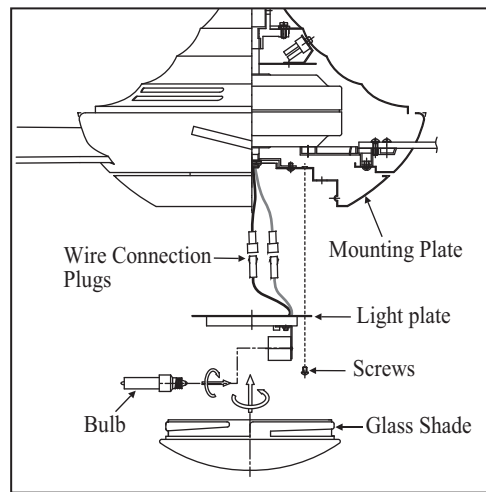

Figure 17
2. While holding the light plate under your fan, make the polarized plug connections: (Fig. 17)
tightening the 2 screws previously loosened and the one previously removed. (Figure 17)